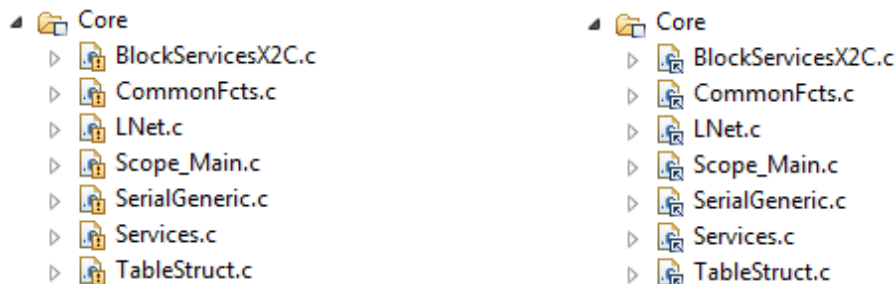

Figure 2: *Code Composer Studio* invalid (left) and valid (right) *X2C* root directory
3. In the *Code Composer Studio* file structure of the *Blinky* demo project there are two virtual folders *Blocks* and *Core*, which should be linked directly to the *X2C* directory. To ensure this go to **Project** → **Properties** drop down **Resource** and click **Linked Resources**. Double click on folder **X2C_ROOT** and set the correct link to your *X2C* installation directory (<X2C_ROOT>). After hitting **OK** two times there should not be any warning signs (like shown in Figure 2) at the icons for the linked files in the *Blocks* and *Core* folders.